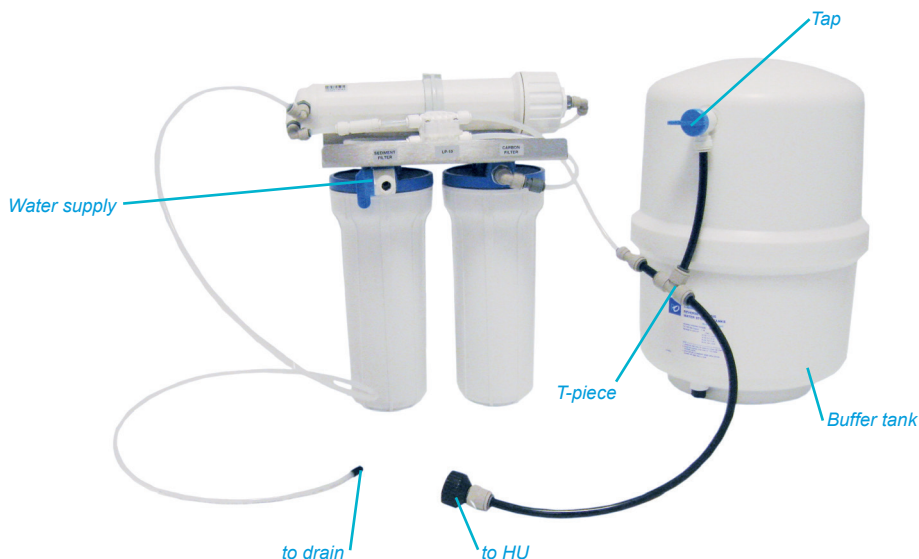

Figure 6 LP-10 with pressure tank and connections
1. Fit a 3/8" tube from the R.O. water connection (Figure 6) to the T-piece and from the T-piece to the inlet valve on the storage tank.
Fit a tube (1/4" minimum) from the discharge connection (Figure 6) to the drain.